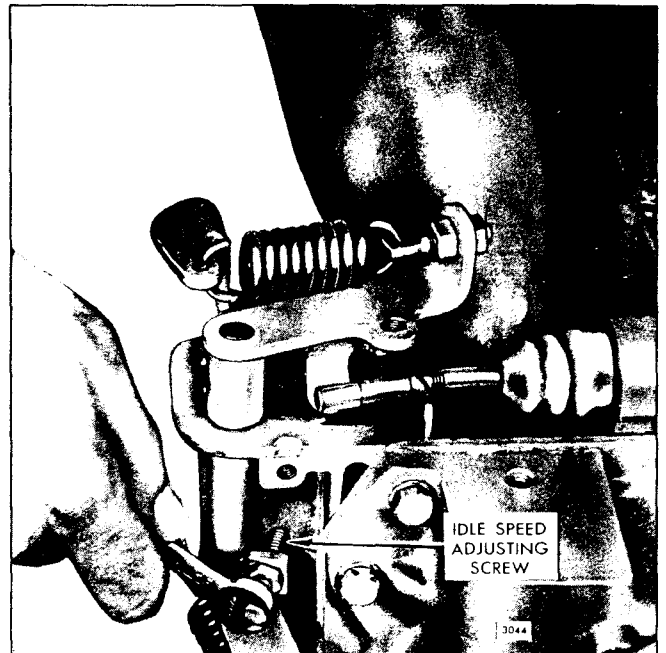

Fig. 5 - Adjusting Idle Speed
2. With the engine operating, loosen the lock nut and turn the idle speed adjusting screw (Fig. 5) in or out until the engine idles at the recommended speed. The recommended idle speed is 550 rpm. However, the idle speed may vary with special engine applications.